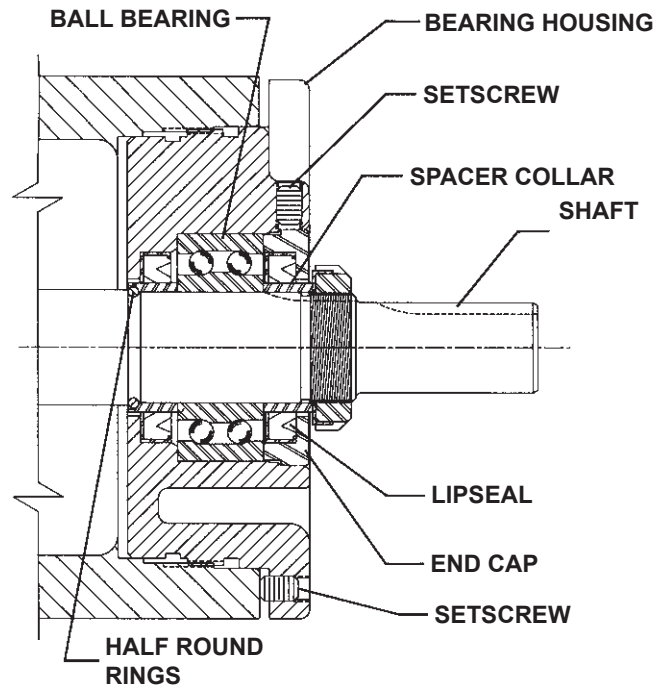

FIGURE 7
4. Loosen two setscrews in the face of the bearing housing and remove the bearing housing assembly from the bracket. **Refer to Figure 7.**